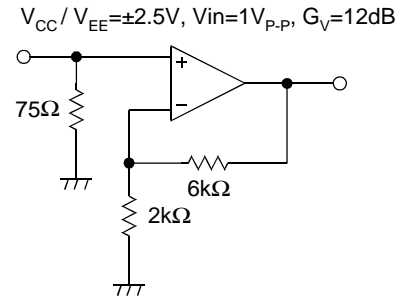

Figure 2: Application Example
An example of this application is shown in Figure 2 with the preventive measures explained below.
In Figure 2, if $-0.5V$ (the minimum value of input amplitude) is given to the input, the output voltage will be set to $-2.0V$. Substitution of V_{in} and V_{out} into (4) gives